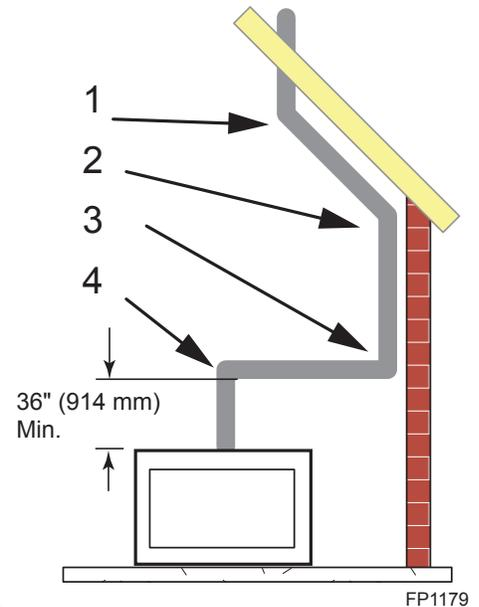

Figure 25 - Maximum Elbow Usage
- Two sets of 45°elbows offsets may be used within the vertical sections. From 0 to a maximum of 8' (2.5 m) of vent pipe can be used between elbows. *Figure 25*
- The maximum angular variation allowed in the system is 270°. *Figure 25*
NOTE: Pay special attention to these installation instructions for required clearances (air space) to combustibles when passing through ceilings, walls, roofs, enclosures, attic rafters, etc. Do not pack air spaces with insulation. Also note maximum vertical rise of the venting system and any maximum horizontal offset limitations. Offsets must fall within the parameters shown in Figures 25 and 26.